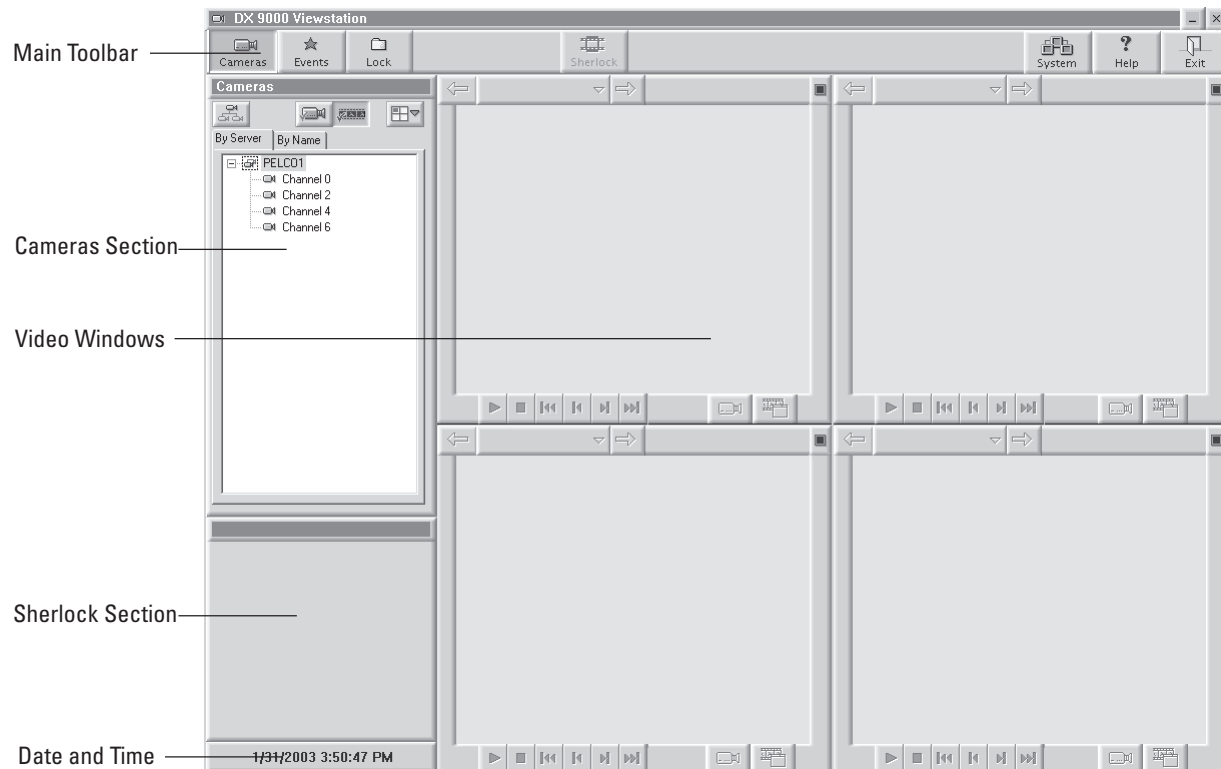

Figure 2. DX9100 Main Window
3. Click Login. The main window appears. Refer to Figure 2.